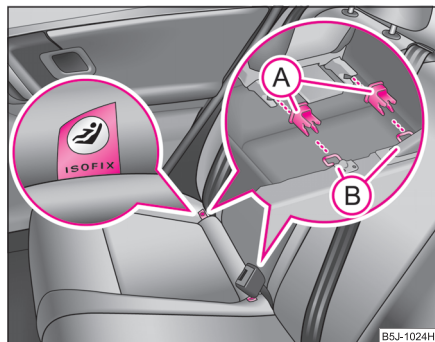

Fig. 130 Locking eyes (ISOFIX system)
- Insert the mounting funnels (A) onto the locking eyes (B) between the backrest and seat cushion ⇒ fig. 130.